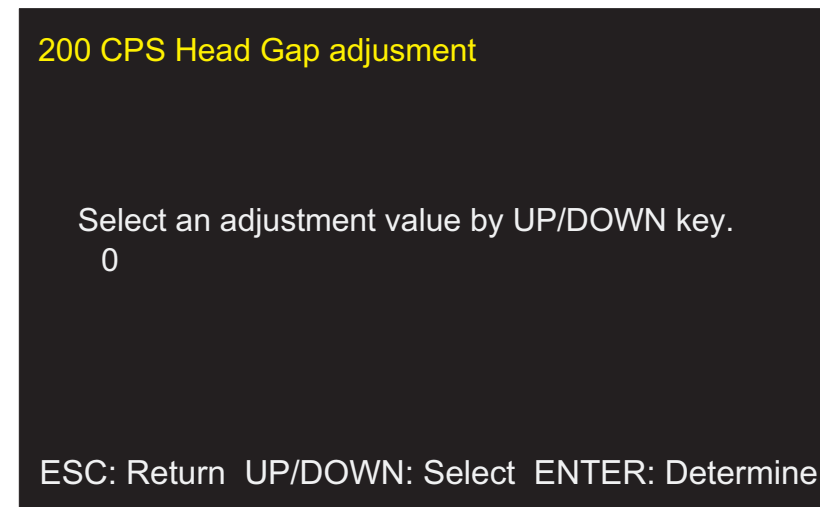

Figure 5-40. Selecting the Setting Value
- Step26. Press Return key. (It goes to the screen of figure5-40)
- Step29. Press ESC key 3 times, then the screen returns to the adjustment menu.